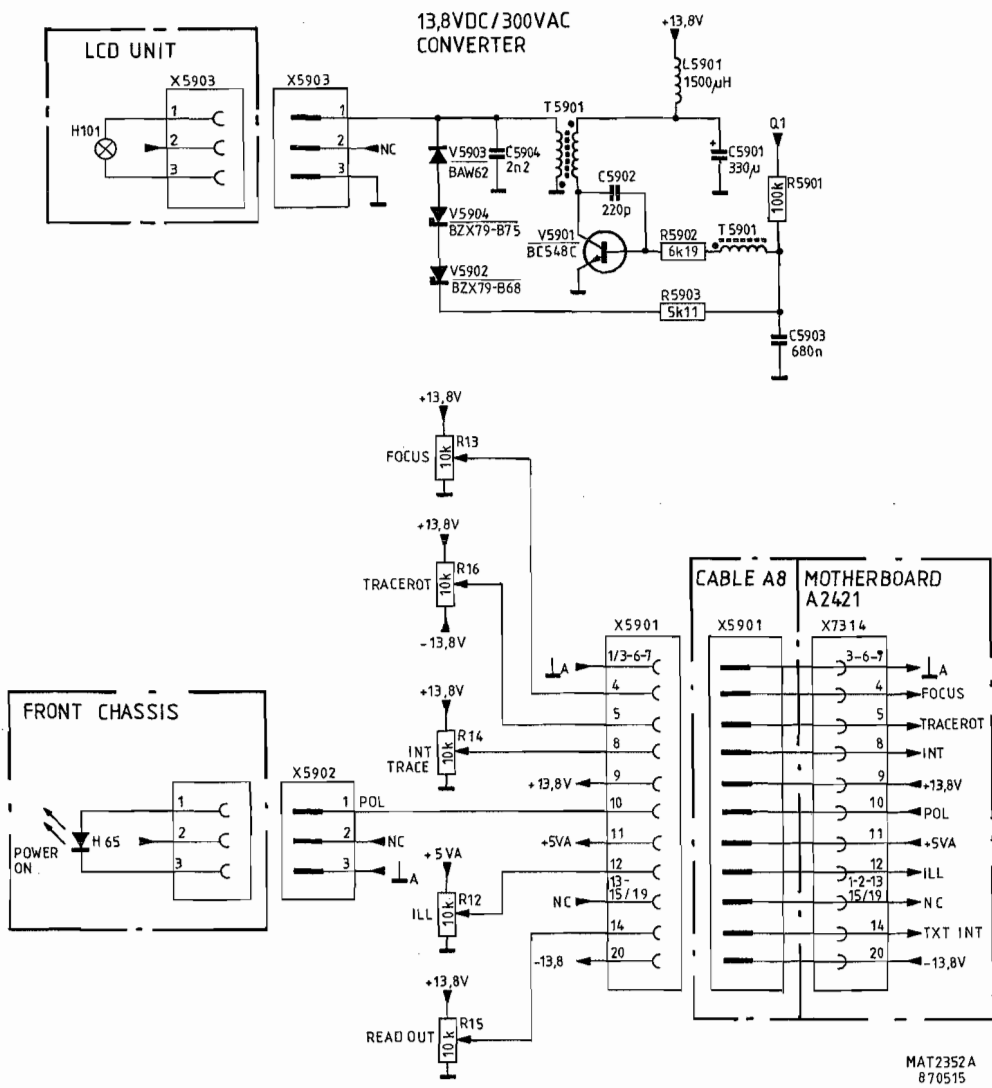

Fig.22.2 CRT controls unit, circuit diagram.
22. DESCRIPTION OF CRT CONTROLS UNIT (See fig.22.2)